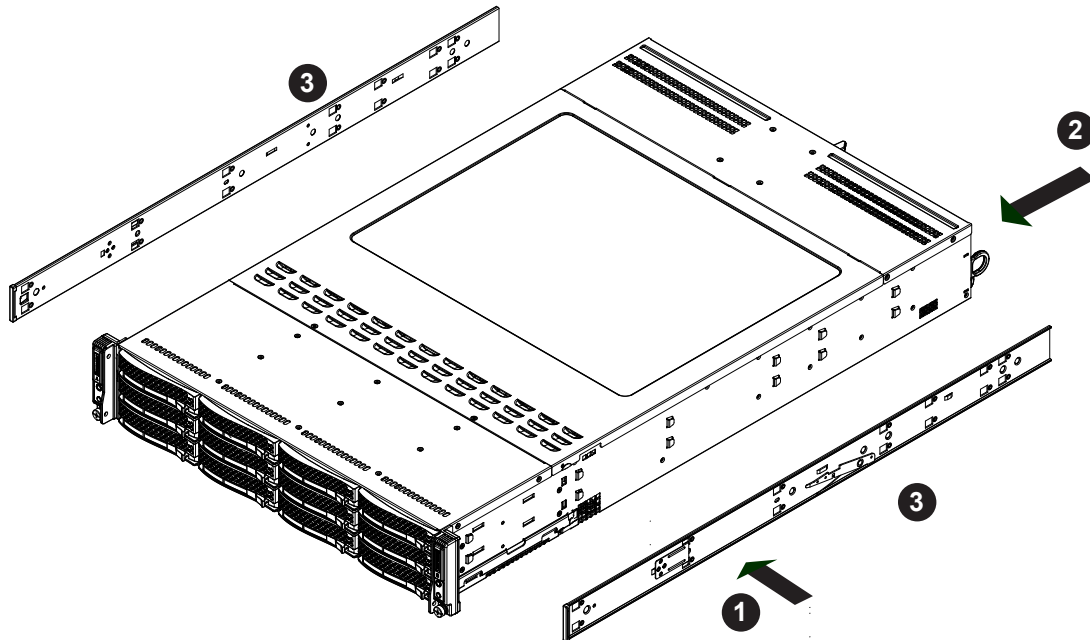

Figure 2-2. Installing the Rails
2. Screw the front chassis rail (the long piece) securely to the side of the chassis (see Figure 2-2). There should be two screws for each side. Repeat this procedure for the other rail on the opposite side of the chassis.